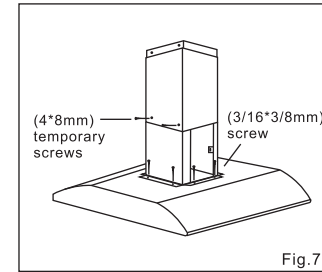

Fig.7
9. Hold the outer chimney duct cover up by temporary screws then continue to install island hood to end of telescopic stack. (Fig.7)
Important ! Must ensure every screws were fasten tightly. (Fig.7)
1. Loosen temporary screw (Fig.7)